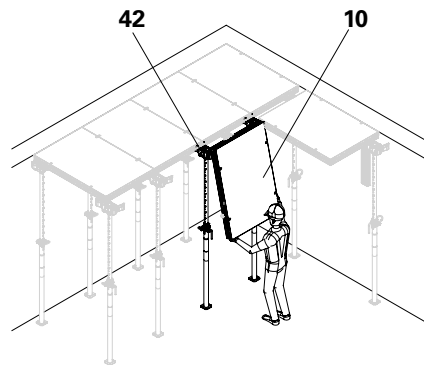

Fig. D2.14a
1. Attach the DP panels (**10**) to the backpropping head. (Fig. D2.14a)